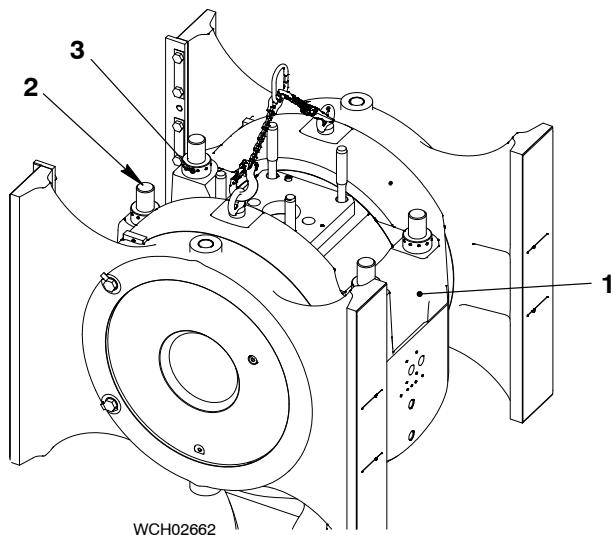

Fig. 6
- 8) Attach the round nuts (3, Fig. 6) to the elastic bolts (2).
- 9) Use the pre-tensioner (94315) to tighten the four round nuts (3) refer to 9403-4, paragraph 3.